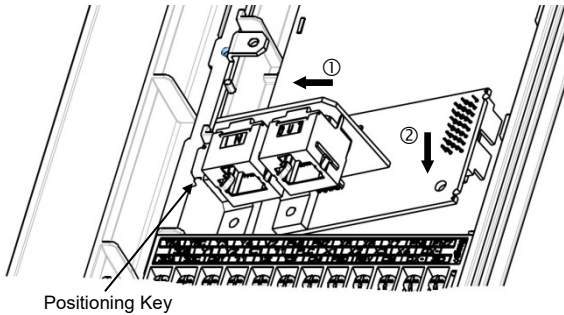

Figure 8: Mounting the Interface Card
2. Rest the left-hand side of the interface card on the control PCB's A-port mounting support. Align the positioning notch on the interface card with the A-port positioning key, and then slide the interface card to the left to engage the key into the notch. Refer to step ① in Figure 8.
3. Rotate the right-hand side of the interface card downward to engage connector CN1 (on the back of the interface card) into the A-port connector (CN4) on the inverter's control PCB. Ensure that the connectors are fully engaged. Refer to step ② in Figure 8.